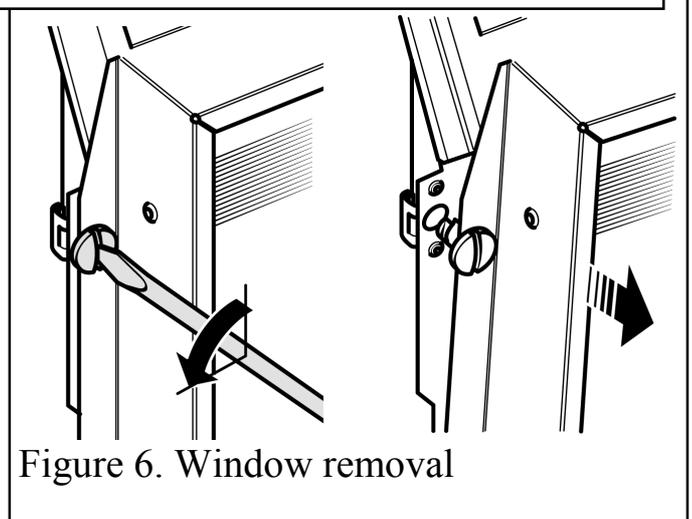

Figure 6. Window removal
3.3.7. Remove the window unit by turning the screws each side of the window frame  $\frac{1}{4}$  turn anticlockwise and lifting the unit clear. See figure 6. *The flattened end of the smoke match tube can act as a screwdriver.*